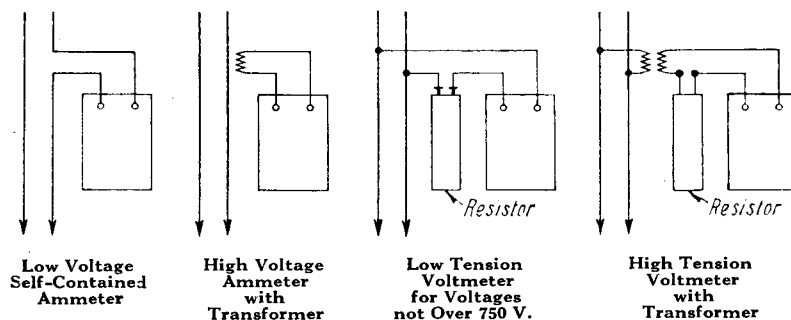

Fig. 4
7. **Connect** as shown in the wiring diagram Fig. 4, page 11.